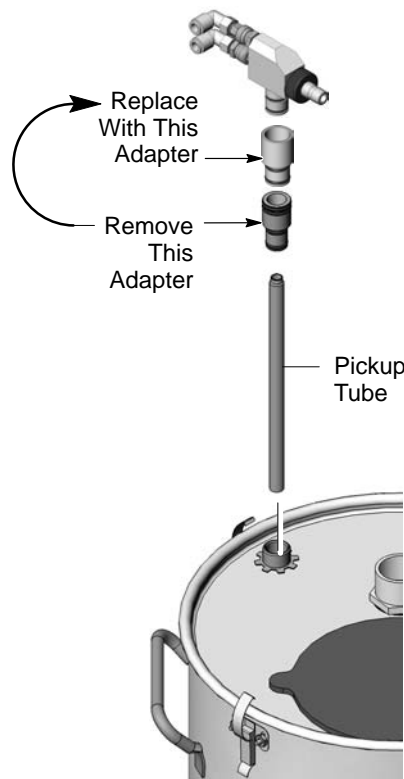

Figure 2-5 Pump Mounting
1. See Figure 2-5. Pull the pickup tube assembly out of the pump mount.